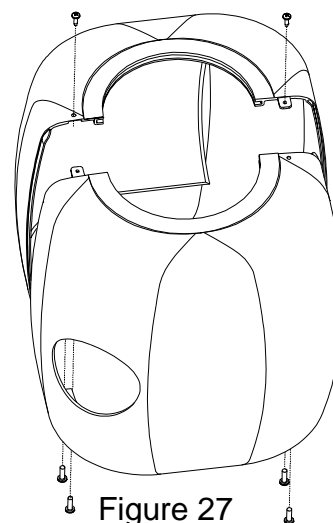

Figure 27
- Attach the protective covers to both pod assemblies. Covers are secured with 4 screws on the bottom and 2 on the top. See Figure 27 for detail. Covers should not bind the pod at any point.